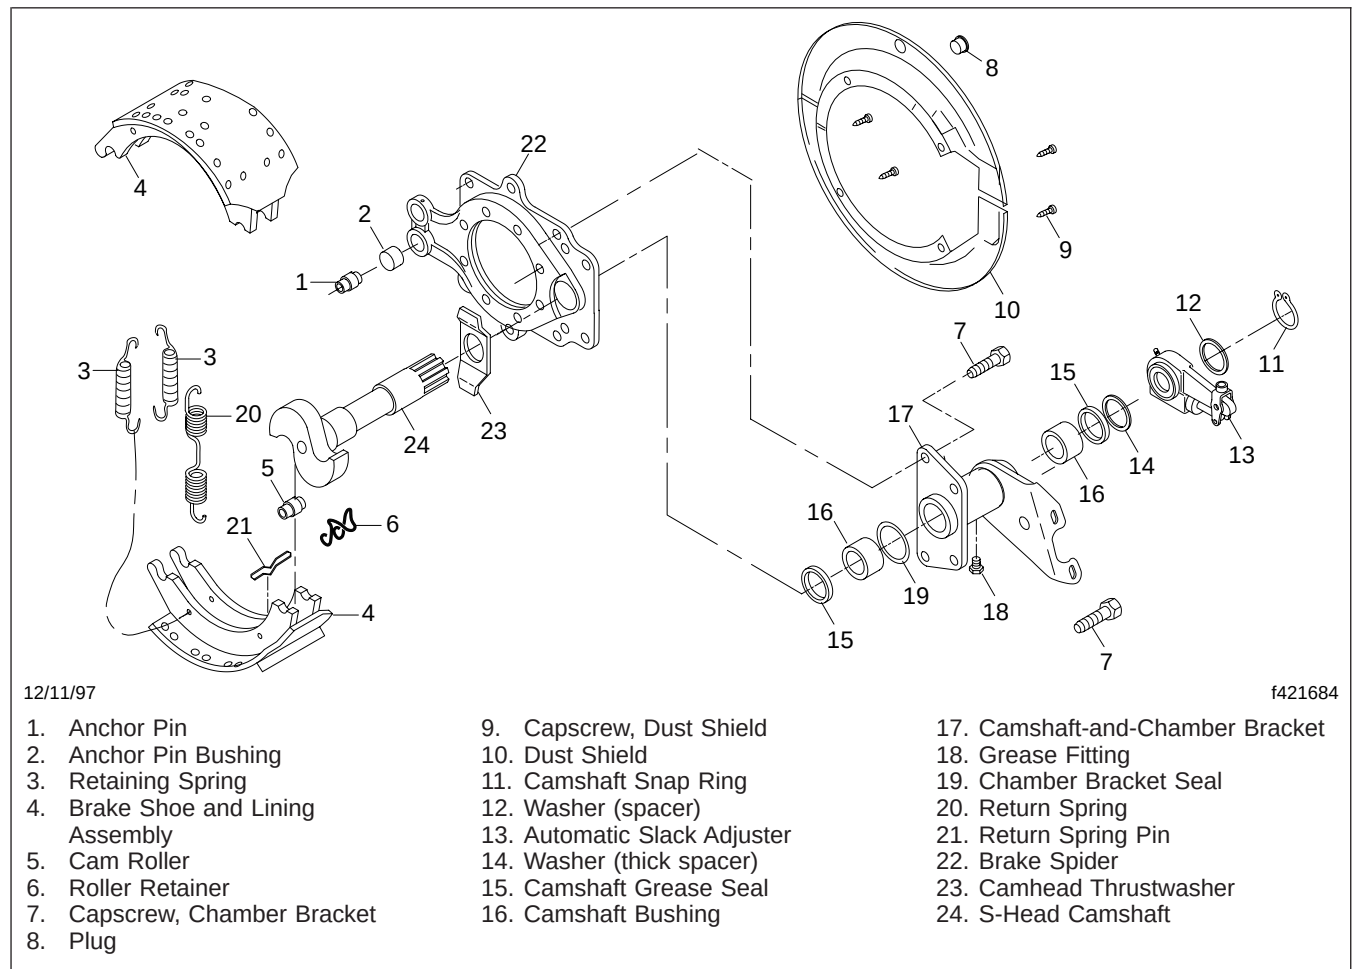
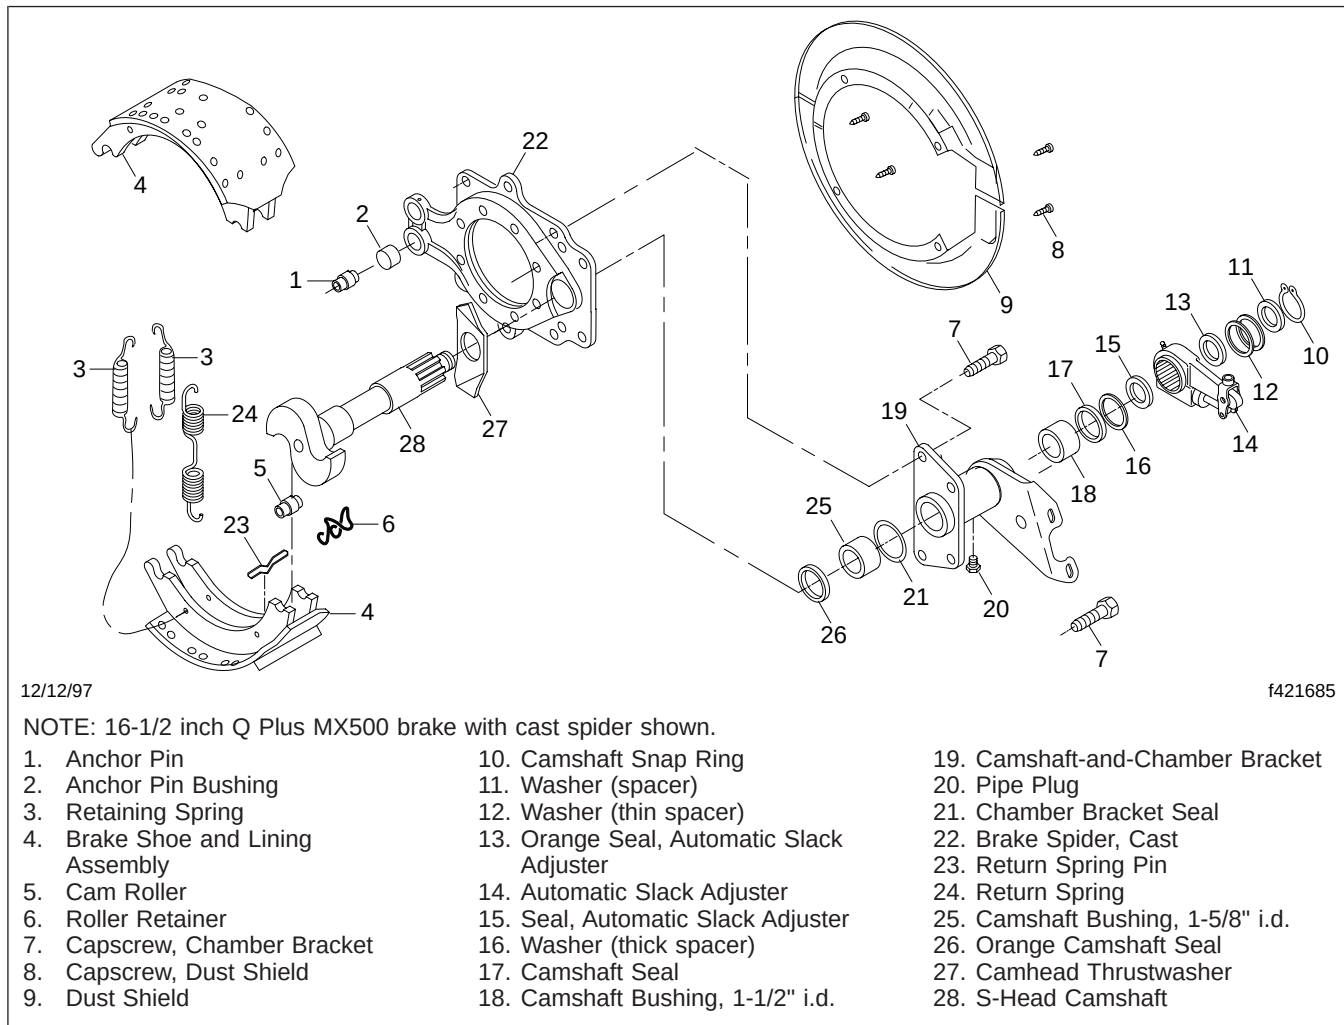
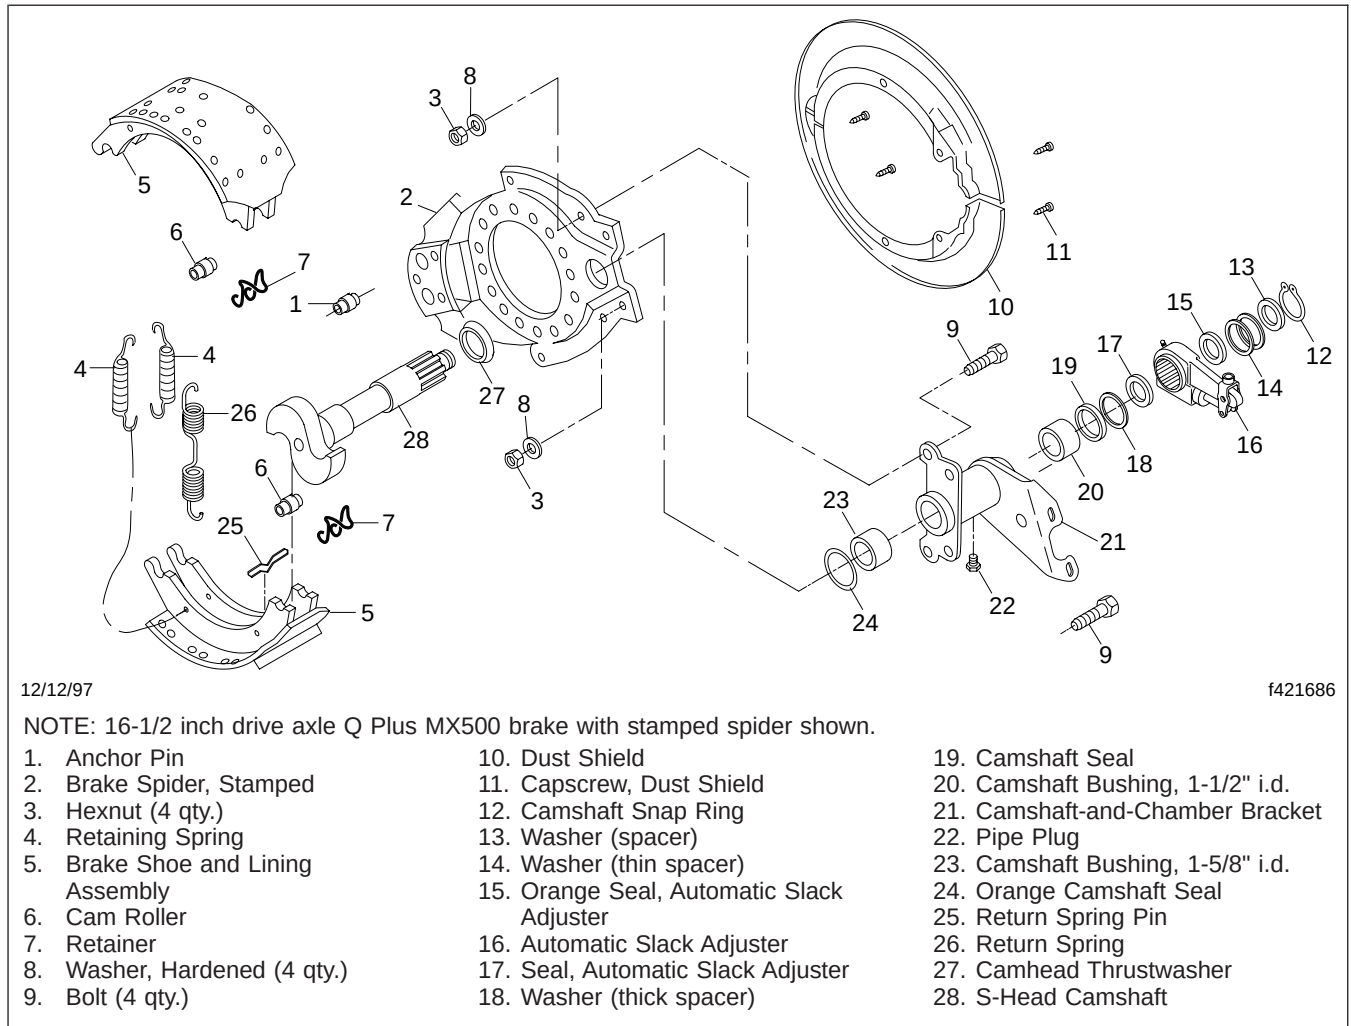

Fig. 1, Q Plus Brake (other than MX500 Series)
Fig. 2, Q Plus MX500 Brake (with cast spider)
Fig. 3, Q Plus MX500 Brake (with stamped spider)
- Fig. 1, Q Plus Brakes (other than MX500 Series)
- Fig. 2, MX500 Series with Cast Spider
- Fig. 3, MX500 Series with Stamped Spider
- 5.1 From the slack adjuster side of the camshaft-and-chamber bracket, remove the snap ring and any washers, spacers, and seals from the camshaft. See Fig. 1, Fig. 2, or Fig. 3.